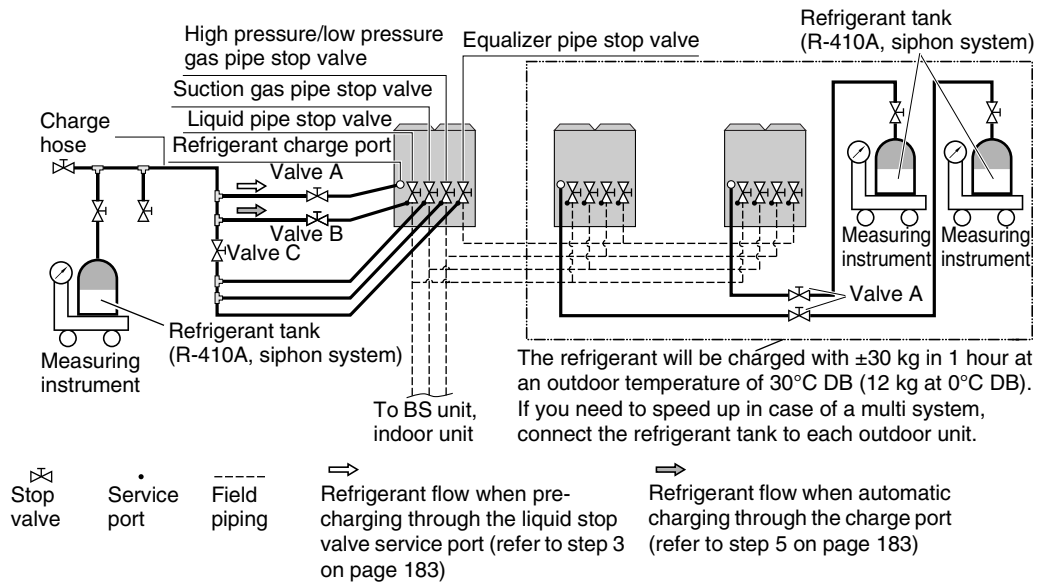

figure 24
- Open valve B (the valves A and C, the liquid pipe, the suction gas pipe, the high pressure/low pressure gas pipe and the equalizer pipe stop valves must be left closed) and charge the refrigerant in liquid form via the liquid pipe stop valve service port. (See figure 24)
- After pre-charging, perform the refrigerant charge operation as shown below and charge the remaining refrigerant of the additional charging amount through valve A. (See figure 24)
**Note:** For a multi outdoor unit system, it is not required to connect all charge ports to a refrigerant tank. The refrigerant will be charged with  $\pm 30$  kg in 1 hour time at an outdoor temperature of  $30^{\circ}\text{C DB}$  or with  $\pm 12$  kg at an outdoor temperature of  $0^{\circ}\text{C DB}$ . If you need to speed up in case of a multiple outdoor system, connect the refrigerant tanks to each outdoor unit as shown in figure 24.